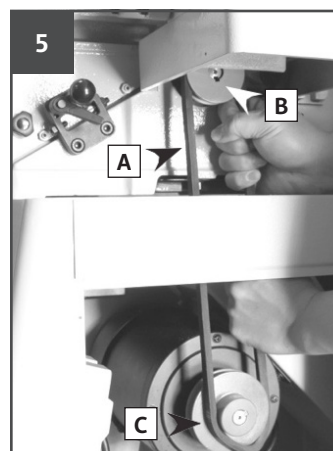
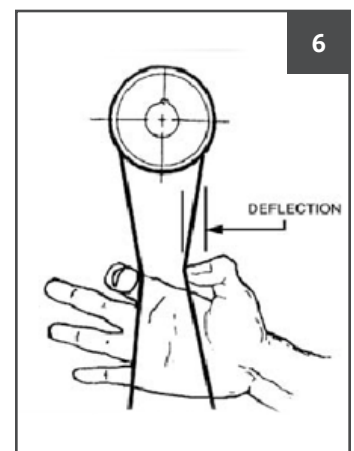

FIGURE 5: INSTALLING V-BELT
FIGURE 6: CORRECT V-BELT TENSION
1. Place **V-BELT (A)** onto **CUTTERHEAD PULLEY (B)** and through the opening in base. See Figure 5.
2. Place **V-BELT** onto **MOTOR PULLEY (C)**. If you can't roll the belt onto the pulley, loosen the motor mount screws.
4. Test tension on the **V-BELT** by applying finger pressure on the belt halfway between the two pulleys. There should be 1/2" of deflection. See Figure 6. If the **V-BELT** is too slack, loosen the four motor mount bolts, push down on the motor to tension the **V-BELT** and re-tighten the mounting bolts.